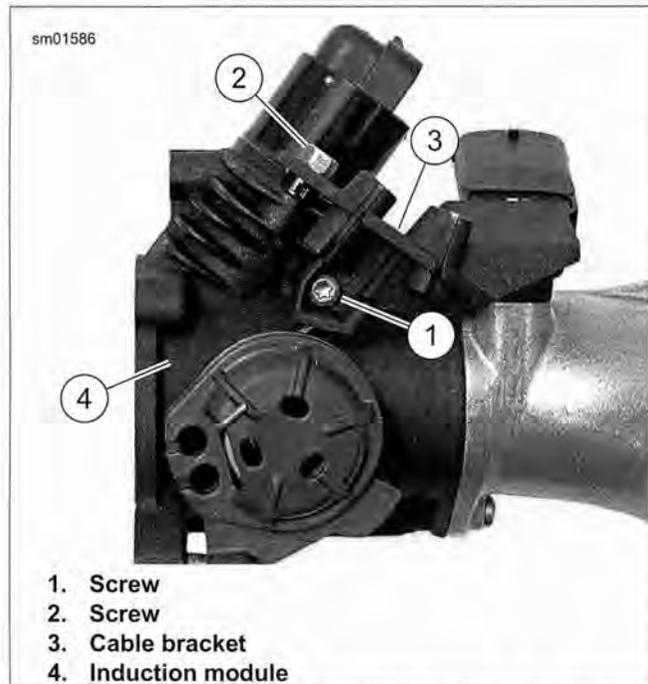

Figure 4-37. Removing/Installing Cable Bracket
2. See Figure 4-37. Remove screws (1, 2) and cable bracket (3) from induction module (4).
4. See Figure 4-37. Install cable bracket (3) onto induction module (4):
- c. Tighten both IAC mounting screws to 60 **in-lbs** (6.8 Nm). Tighten side screw (1) to 60 **in-lbs** (6.8 Nm).